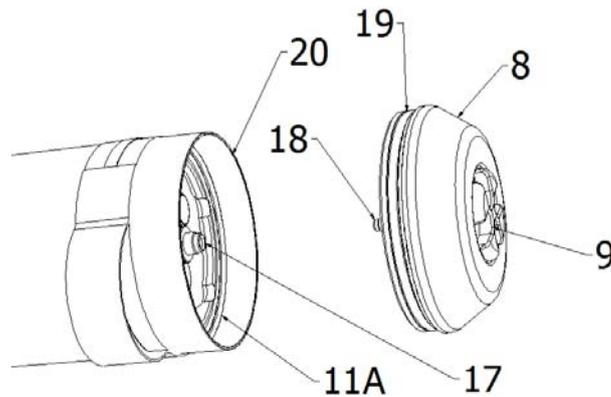

Figure 6
As for trim, you can change factory settings by moving the battery along the pin (13) fig.6. Remove the battery, loosen the nut (21) with a 4 mm Allen key, unscrew or screw in the ring nut (22); screwing it in, the ADV tends to position itself with the rear sinking, unscrewing it causes the opposite. Screw in the nut (21) without perforating, replace the battery and try the ADV in the water until the desired settings are reached.